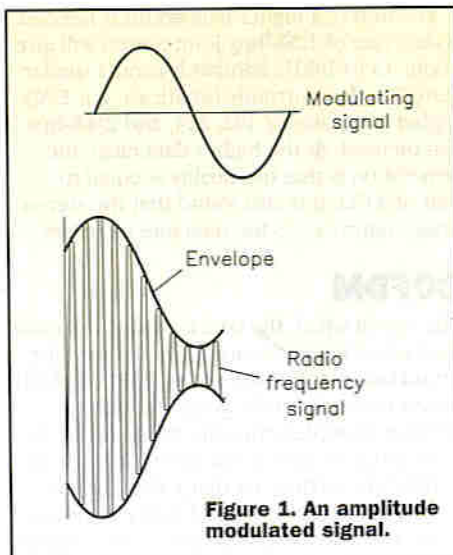

Figure 1. An amplitude modulated signal.
The first type of signal to be used for broadcasting was amplitude modulation (AM). Here, the amplitude of the signal is varied in line with the audio signal, as shown in Figure 1. This is still used on the long, medium and short wavebands. It has the advantage that it is easy and cheap to make sets which can receive these signals. However, the audio quality is poor, and signal propagation often means that the stations are subject to interference and fading.